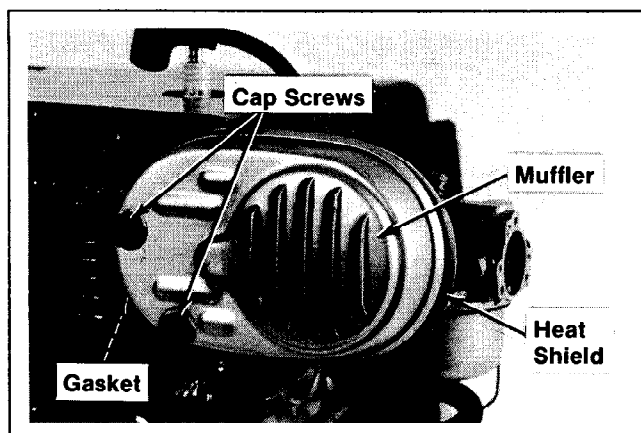

Figure 12-49. Installing Muffler.
1. If the engine is equipped with a flat muffler, install muffler and gasket using cap screws. If equipped with a round muffler, install muffler and threaded exhaust pipe between the muffler and engine using a pipe wrench. Refer to Figure 12-49.